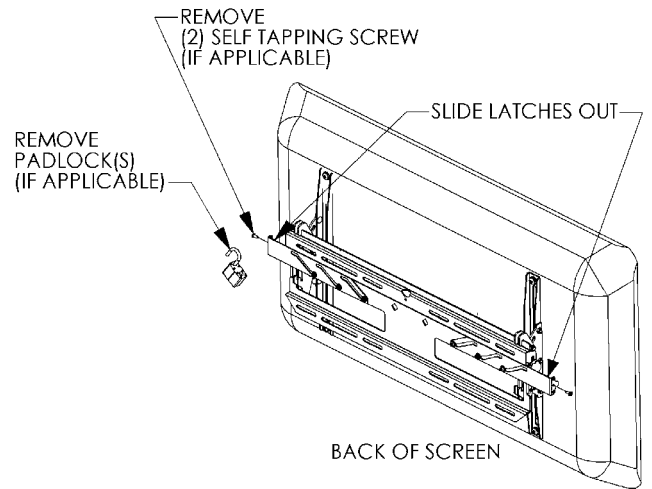

Figure 15. Remove Security Hardware
1. If applicable, remove the self tapping screws and/or padlocks from both sides of the wall plate. This hardware provides security (see Figure 15).
2. Slide the security latches out on both sides to disengage the display from the wall plate. See Figure 15.